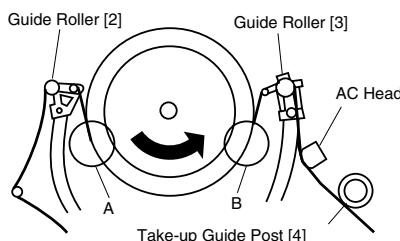
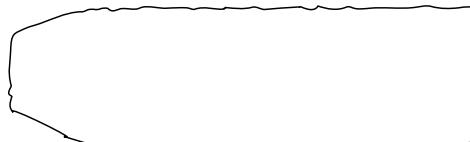
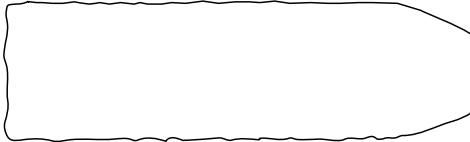
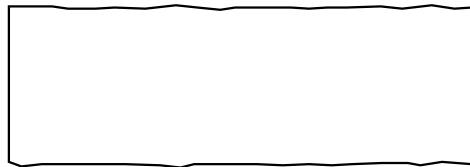

Fig. M3
Fig. M7
Fig. M8
Fig. M9
1. Play back a blank cassette tape and check to see that the tape runs without creasing at Guide Rollers [2] and [3], and at points A and B on the lead surface. (Refer to Fig M3 and M4.)
2. If creasing is apparent, align the height of the guide rollers by turning the top of Guide Rollers [2] and [3] with a Guide Roller Adj. Screwdriver. (Refer to Fig. M3 and M5.)
3. Check to see that the tape runs without creasing at Take-up Guide Post [4] or without snaking between Guide Roller [3] and AC Head. (Fig. M3 and M5)
2. Play back the Gray Scale on the Alignment Tape (FL6N8). Set the Tracking Control Circuit to the center position by pressing the CH UP and then the PLAY button on the VCR. Adjust the height of Guide Rollers [2] and [3] (Fig. M3, Page 2-3-3) watching the oscilloscope display so that the envelope becomes as flat as possible. To do this adjustment, turn the top of the Guide Roller with the Guide Roller Adj. Screwdriver.
3. If the envelope is as shown in Fig. M7, adjust the height of Guide Roller [2] (Refer to Fig. M3) so that the waveform looks like the one shown in Fig. M9.
4. If the envelope is as shown in Fig. M8, adjust the height of Guide Roller [3] (Refer to Fig. M3) so that the waveform looks like the one shown in Fig. M9.
5. When Guide Rollers [2] and [3] (Refer to Fig. M3) are aligned properly, there is no envelope drop either at the beginning or end of track as shown in Fig. M9.
Note: Upon completion of the adjustment of Guide Rollers [2] and [3] (Refer to Fig. M3), check the X Value by pushing the CH UP or DOWN buttons alternately, to check the symmetry of the envelope. Check the number of pushes to ensure center position. The number of pushes UP to achieve 1/2 level of envelope should match the number of pushes DOWN from center. If required, redo the "X Value Alignment."